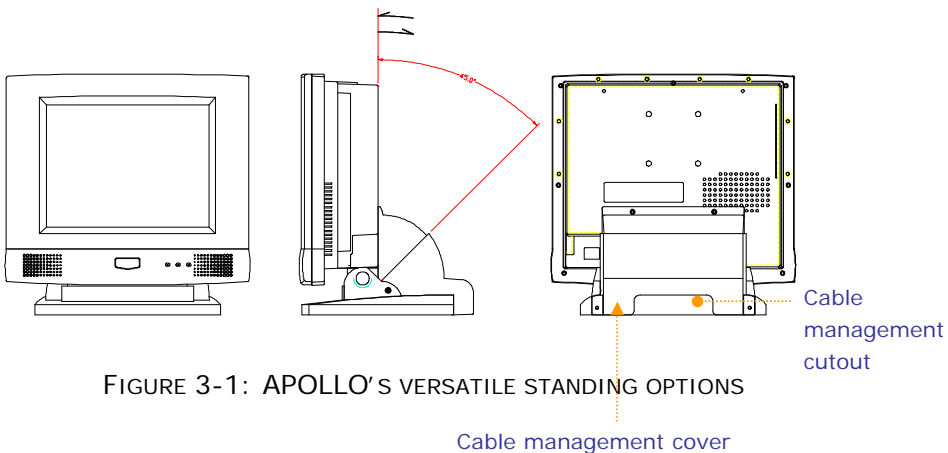

FIGURE 3-1: APOLLO'S VERSATILE STANDING OPTIONS
2. The two base back covers (Fig. 3-1) can act as a set of cable management covers. All the cables connecting to the I/O ports come down in the covers, then out from this opening at the rear side of the base.